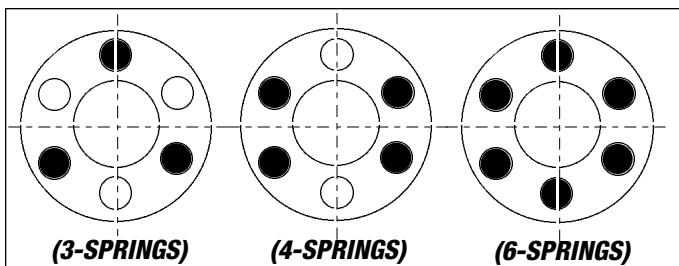

Figure 9.3 - Correct Spring Placement
4. Place the correct number of Springs into the Piston (#3). See Figure 9.3 for Correct Spring Placement.